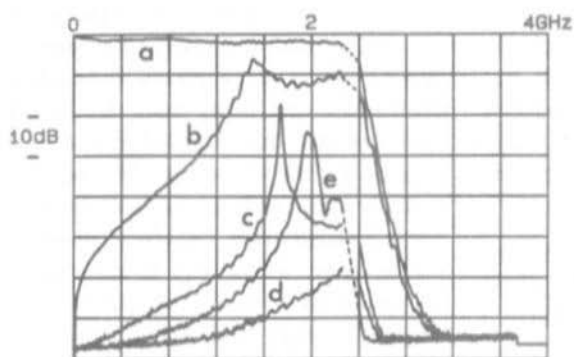

Fig.11:
- The various earthing options for the earth plane refer to Fig.11.
spectral analyser was connected to one socket of the test piece, and a locked-in oscillator was connected to the other. Fig.11 shows the result clearly. In connection with curve b, we see that the earthing through bolts, typical for this kind of housing, is already out of the question in the 70-cm. band, although such structures are to be found from time to time. Presumably, even the selection of a single high-quality filter, e.g. a helix filter, would ruin things with this rig. The signal generator, unfortunately, operates only up to 2.3 GHz. But the assumption is obvious that the coupling is also maintained, or even strengthened, above this level. The resonance behaviour must be brought about through the printed circuit board and not through the volume. This is indicated by the fact that the curves scarcely change if the cover is placed over the earth surface. Moreover, the resonance is strongly dampened in curve c as soon as you touch the earth surface with your finger.
Fig. 11) - soldered tinplate boxes which you can't answer for in service conditions, or the combination of diecast and beginners' stock material, which rusts splendidly.
Finally, something more on the topic of conductive foamed material. Conductive foamed materials filled with carbon have a field of application from IC packaging all the way to microwave absorption. I discovered the idea of using standard high-frequency damping panels in this journal one day. After a few measurements, I have come to the conclusion that the material must have rather low impedance, and can thus not be used for every format. I obtained good results from about 300 MHz upwards in damping larger housings which contained assemblies which were not completely sealed against the passage of high frequencies and had only single-screened cables. Inside smaller housings, the material is used rather to salve one's conscience. In experiments as per Figs. 11 and 12, covers with foamed material glued in place were also used selectively. But the changes were so slight that the preparation wasn't worth it. Here the printed circuit board had to be damped as well, not merely the cavity.